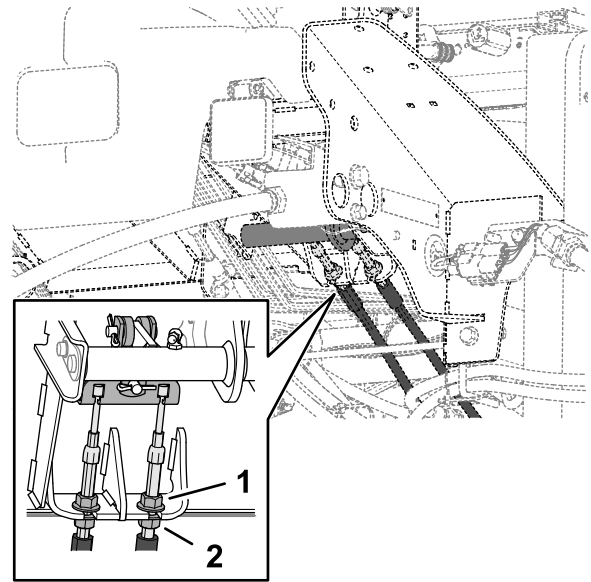

Figure 113
5. To reduce brake pedal-free travel, loosen the front jam nuts on the threaded end of each brake cable (Figure 113).